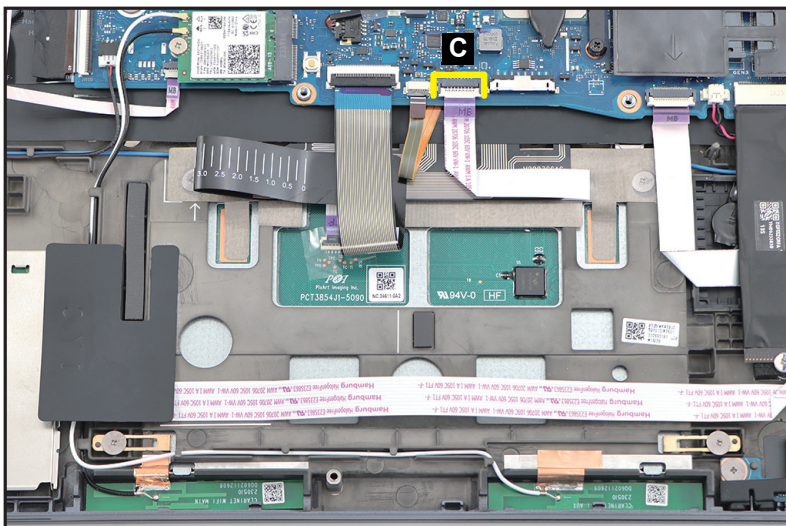

Figure 1-38. Touchpad Module Removal
2. Disconnect the touchpad FFC from the mainboard connector (C) (Figure 1-38).